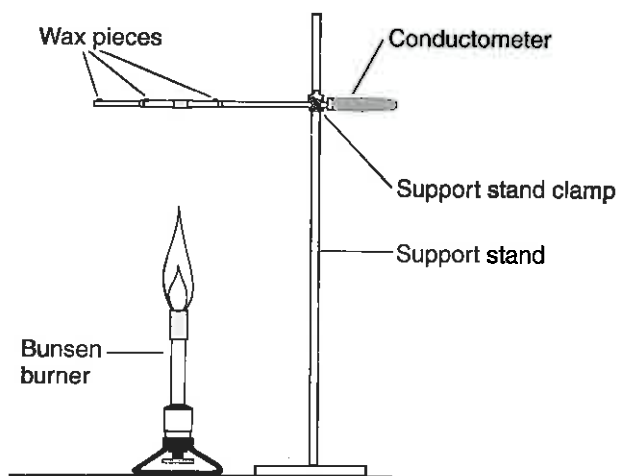

Figure 1.
4. (Optional) Secure the Conductometer to the support stand with the clamp. Clamp as close to the wood handle as possible. Make sure the dimples and wax pieces are on top and the spokes are parallel to the tabletop (see Figure 1).